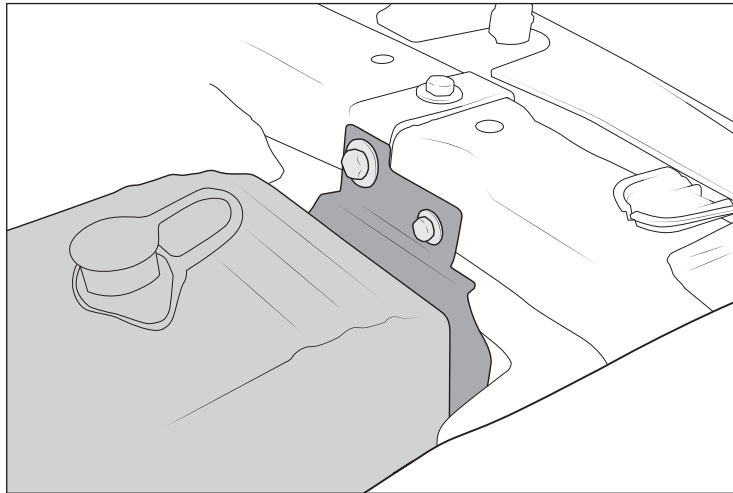

Figure 12
6. Position the controller bracket in place and loosely install the radiator support bolts removed earlier (fig. 12).